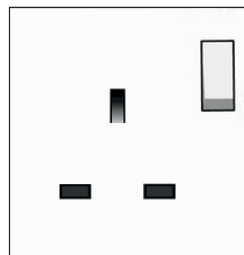

fig. 29 - English socket
- a English wall socket (BS1363) (fig. 29) with ground and separate protection